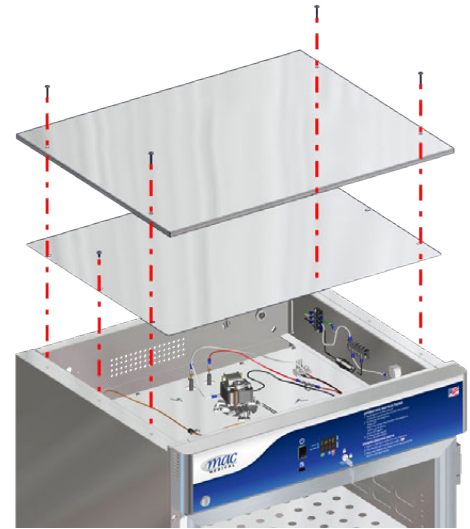

Fig. 29: Remove Top Panels
1. For both glass and stainless steel doors, remove the outside top panel by unscrewing the four top panel screws and lifting the panel out. Remove the inside top panel by unscrewing the two screws and lifting the panel out (Fig. 29).